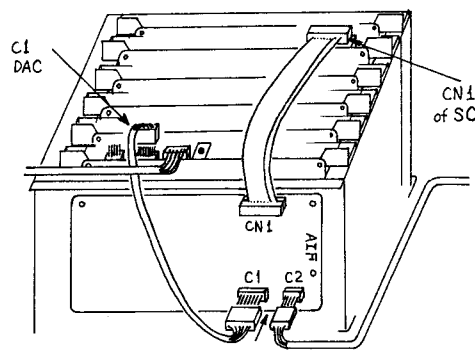

Fig. 5
13. Using the 40 pin flat cable assembly, (ribbed side up, polarity marking on the right when viewed from back of organ) connect to socket CN1 of the AIF circuit board, and to socket CN1 of the "SC" circuit board (see figure 5).
14. Using the 10 pin connector cable assembly (supplied in the installation kit), connect to plug C1 of the AIF circuit board and to socket C1 of the DAC circuit board (see figure 5).
15. Using the 5 pin connector cable assembly, connect to plug C2 of the AIF circuit board. Leave the other end free. This will be connected in step #18 later (see figure 5).